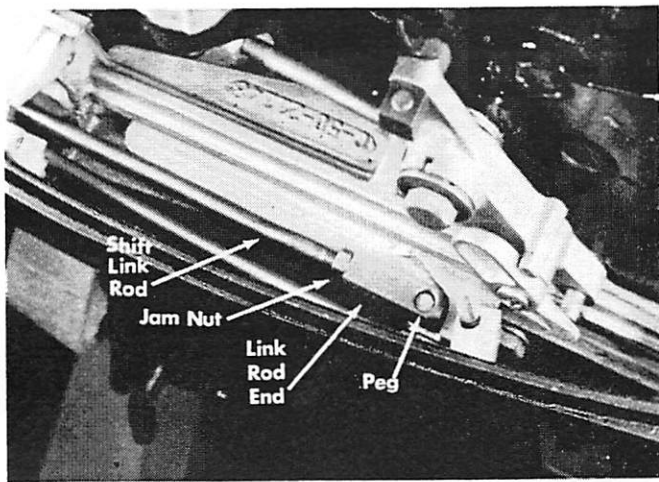

Figure 5. Installing Shift Link Rod
6. With motor in forward gear, place end of shift link rod over shift actuator peg. It may be necessary to loosen jam nut, which is located on link rod, and thread link rod end clockwise or counterclockwise, as required, to line up hole in rod end and shift actuator peg. Tighten jam nut securely. (Figure 5)